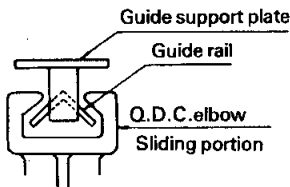
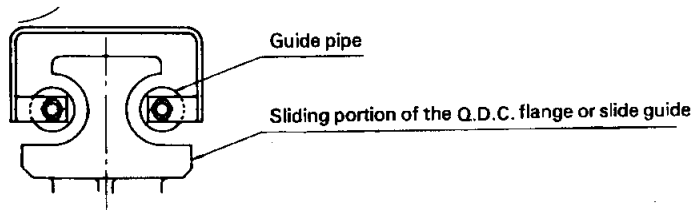

Fig. 11 Model LS
Fig. 12 Model LMM, LM, LL
(7) Lift the pump using a chain fall or hoist and insert sliding portion of Q.D.C. elbow into guide rail (Fig. 11) or insert sliding portion of Q.D.C. flange or sliding guide into guide pipe (Fig. 12)